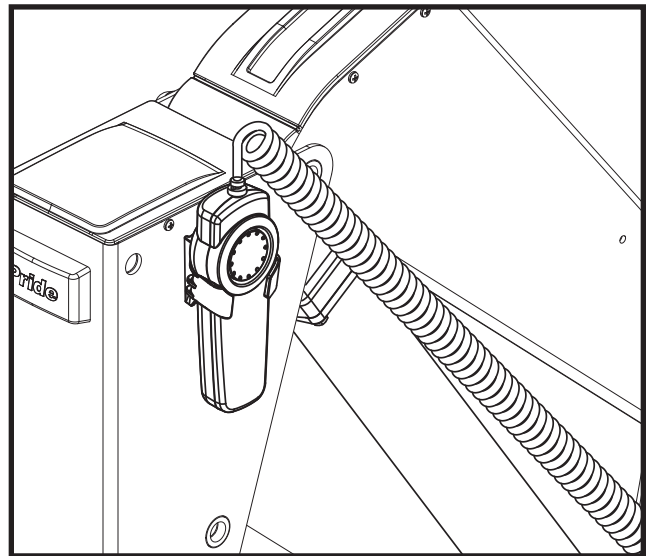

Figure 9. Hand Control
1. Press and hold the “DOWN” button. **See figure 9.** The lift will move the platform to its farthest forward stop, then lower to the ground. Once the platform has reached the ground, release the “DOWN” button.
6. Press and hold the "UP" button. **See figure 9.** The lift will move up to its highest lift point, then slide into the SUV or van. Once the mobility device is stowed completely within the vehicle, release the button.